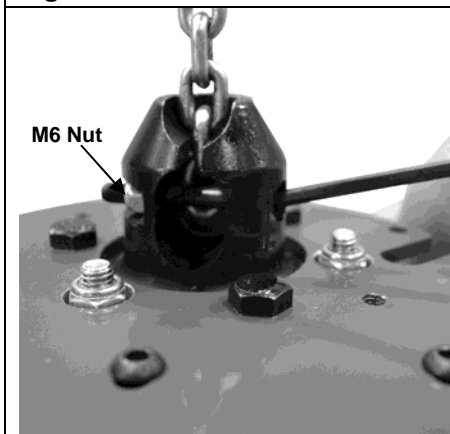

Figure 2-14
- 3) Place M6 nut on other end of bolt and tighten. (Refer to Figure 2-14)